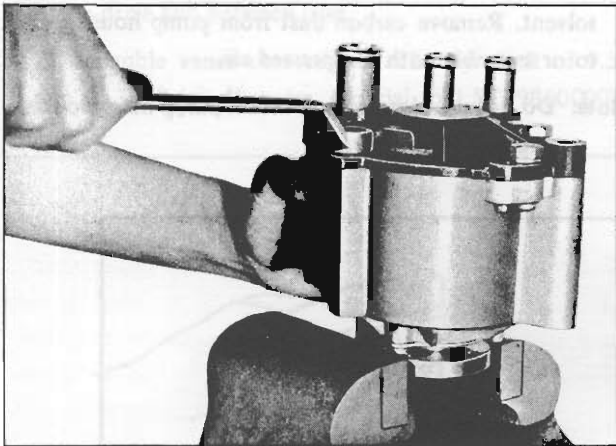

Fig. EC-10 Removing cover
2. Secure the air pump drive hub in a vise, as shown in Figure EC-10 and remove four end cover bolts.